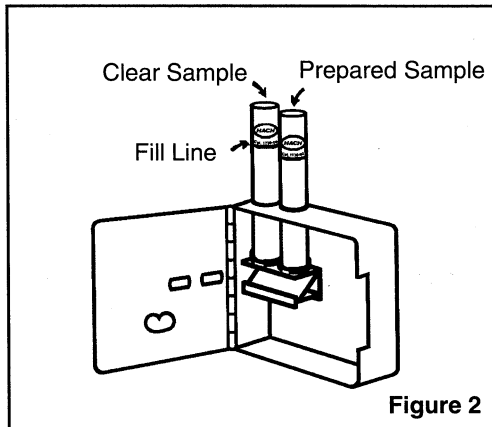

Figure 2
5. Place the tube containing the prepared water sample into the comparator opening labelled "Prepared Sample Position" in Figure 2..
6. Fill the other sample tube with untreated water or a reagent blank to the line as described in Step 4. Insert this tube into the comparator opening labelled "Clear Sample Position" in Figure 2.